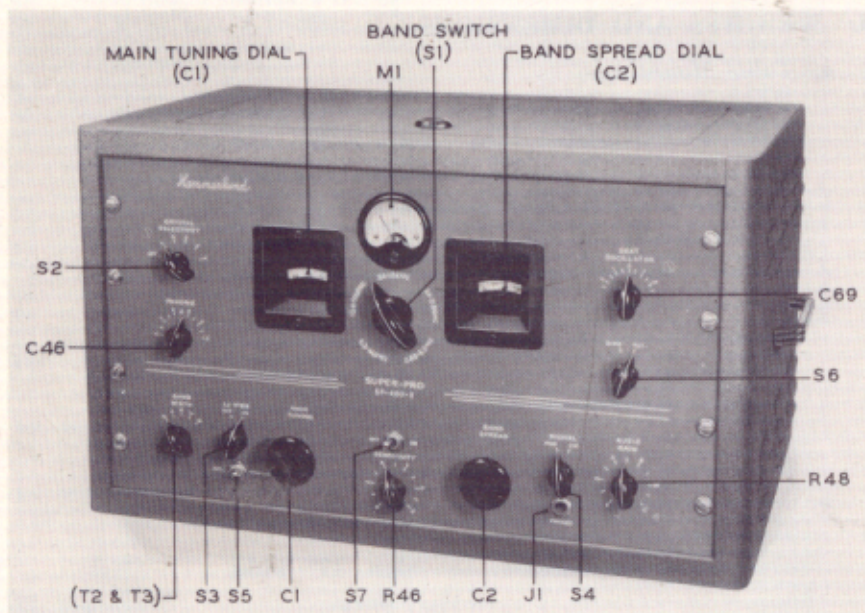
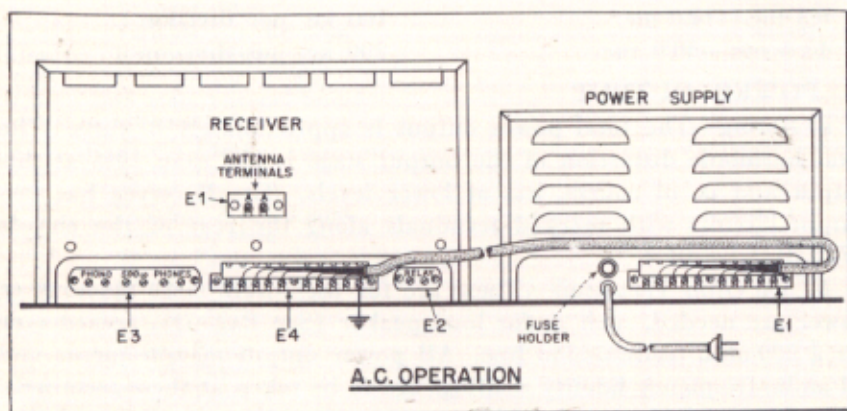

FIG. 2—Lay-out of controls referred to in text.
FIG. 3—Connections for power cable—A.C. operation.
panel (FIG. 2). Select the desired band by turning the BAND SWITCH knob right or left to the band indicated.
a. *Rating*—The total power output is approximately 8 watts. The total harmonic distortion of the output stage is less than 10% at this output and is, of course, less at lower levels. The Receiver has two output circuits with marked terminals along the rear of the chassis (FIG. 3).
(1) Remove the sheet-metal covers from terminal strip (E4, FIG. 3) on rear of Receiver and from terminal strip (E1, FIG. 3) on Power Supply. See that all ten screws on each strip are unscrewed at least three turns. Then attach one end of the connector cable to each terminal strip *exactly* as shown in FIG. 3 and tighten all screws securely. Make certain that each slotted spade lug on the cable strips makes contact with its respective screw terminal *only*, since a lug jammed between *two* screws could cause considerable trouble. Immediately
Connect a single-wire lead-in to the end of the antenna nearest the Receiver and try to have the lead-in wire leave the antenna approximately at right angles. Connect the lead-in to one of the "A" terminals (on terminal strip E1, FIG. 3) at the rear of the Receiver. Connect the other "A" terminal to a good ground, preferably not to the Receiver chassis. Run this ground lead to a water pipe or to a metal rod driven into the ground deep enough to reach moist earth. Keep the length of the ground lead as short as possible. Make the best possible electrical connections between the antenna and its lead-in and between the ground lead and "ground."
d. *Chassis Ground*: It is not usually necessary to ground the Receiver chassis, but this can be done by connecting the ground lead to the left-hand PHONO or to the left-hand PHONES terminal (located on terminal strip E3, FIG. 3). These two terminals are grounded to the inside of the chassis.
e. *Earphones*: Plug a headset into the PHONES jack (J1, FIG. 2), or connect it to screw terminals marked PHONES on rear of chassis. No matching transformer is necessary (see PAR. 20b).
f. *Loudspeaker*: The permanent magnet dynamic loudspeaker supplied with the Receiver has a transformer mounted on its housing. This transformer matches the voice coil of the loudspeaker to the 500-ohm output terminals (on terminal strip E3, FIG. 3) located at the rear of the chassis (marked 500 ohms). For loudspeaker operation,
h. *Line Switch:* Turn the OFF-ON switch (S7, FIG. 2) on the Receiver front panel to OFF and plug the power cord of the Power Supply into the a-c powerline.
a. *Radiophone Reception*: Set the front panel controls (FIG. 2) as follows:
(1) Throw OFF-ON power switch in center of panel to ON. This puts Receiver in operation.
(2) Adjust band switch (S1, FIG. 2) to a band which is likely to be very active. This will facilitate the process of getting familiar with the various adjustments. If interference is not serious, BAND WIDTH control can be adjusted to a wider band width (higher number), depending upon the degree of fidelity desired. In general, adjust this control to band width giving best tone with least interference.
(3) Do all tuning, with or without the meter with BAND WIDTH control set at 3. Other settings give wider bands, making exact tuning difficult. Make band width adjustments *after* signal is tuned properly.
(4) LIMITER-OFF-ON control turns noise limiter on and off. The noise limiter will be most valuable on the higher frequencies, where interference from automobile ignition system is most bothersome.
(1) On strong signals, do not turn SENSITIVITY control all the way on, because it will cause overloading. If the AUDIO GAIN control is set at about 7, it is possible to regulate volume by using only the sensitivity control.
(2) To turn on the beat oscillator, set SIGNAL-MOD-CW switch at CW. The BEAT OSCILLATOR control varies the pitch of the beat between oscillator and incoming signal. Use beat oscillator for code reception and for locating weak modulated signals.
(3) Fading signals can be improved by returning AVC-MANUAL switch to AVC.
d. *Receiver Silencing:* Receiver can be silenced by flipping the SEND-REC switch (S6, FIG. 2) to SEND. This operation opens the "B" supply to the R-F and 1st detector tubes (V1, V2 and V3). The Receiver then remains ready for instant service during transmission periods. Note also that instead of using the SEND-REC switch, a relay may be connected to the RELAY terminals (E2, FIG. 3) at rear of Receiver and silencing controlled by relay action, actuated, for example, by the associated transmitter. When using a relay for silencing, flip SEND-REC switch to SEND (open) and *leave* it there. While the
*e. Phono Operation:* Leads from a phonograph pickup may be connected to the PHONO terminals (on terminal strip E3, FIG. 3) at the rear of the Receiver. (Note that the left-hand terminal of this pair is grounded to chassis.) Use the SEND-REC switch (S6) as a "phono-radio" switch by flipping it to the SEND position, thus eliminating radio interference and making it unnecessary to hunt for a "dead spot" on the tuning dial.